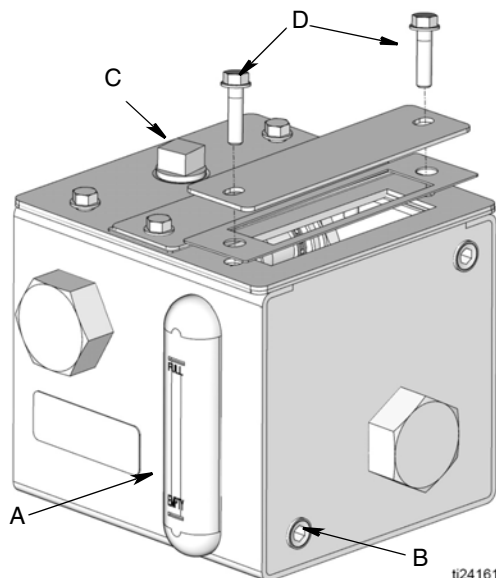

FIG. 1
The reference letters used in the following instructions, refer to FIG. 1.
- a. Drain reservoir by removing drain plug (C) (FIG. 1). Dispose of oil according to all applicable safety regulations.
- d. Replace pumping units. Torque mounting screws (F) (FIG. 1) to 110 in. lbs  $\pm$  10 in. lbs. (12.43 N.m  $\pm$  1.13 N.m).
- e. Apply thread sealant (user supplied) to drain plug (C) (FIG. 1) and replace. Torque to 35 in. lbs  $\pm$  5 in. lbs. (3.95 N.m  $\pm$  0.6 N.m).